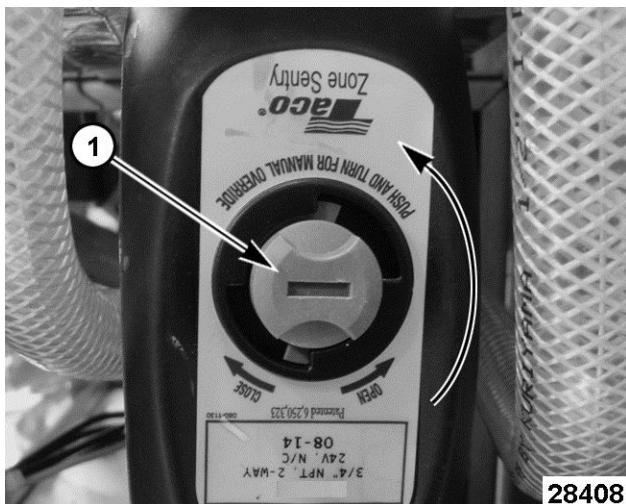

Fig. 64
- A. Rotate knob 90° CCW [1] Fig. 64 to manually open the drain valve. Turning knob such that the slot in knob is in a vertical orientation indicates the drain valve is open. If slot in knob is in a horizontal orientation, the drain valve is closed.